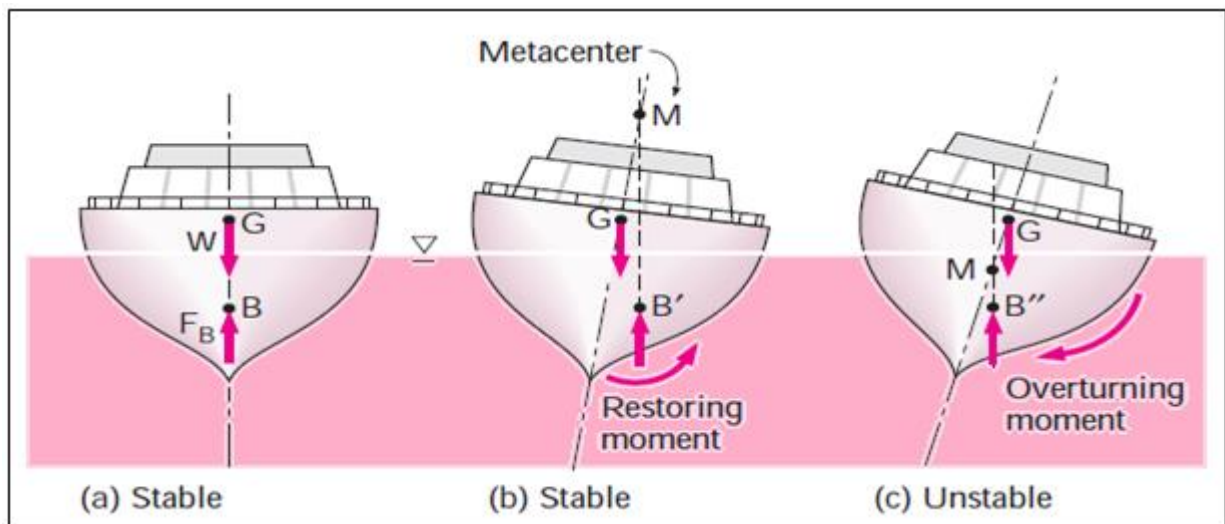

Figure 23. Stability according to G, M, and B
The forces of thrust and weight are equal and inline, as shown in Figure 23 (a).
- G is below M is a stable condition, as shown in Figure 23 (b).
- G is above M is the unstable condition, as shown in Figure 23 (c).